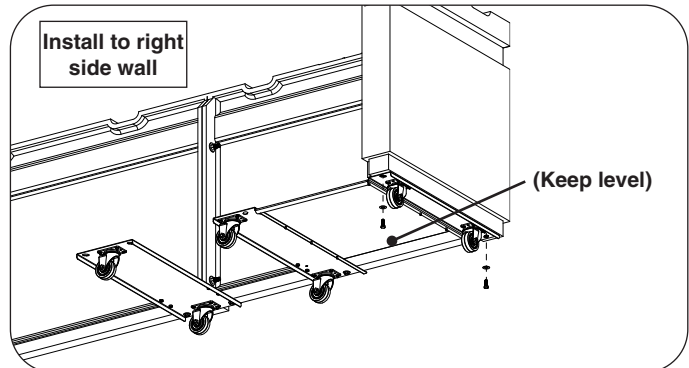

Fig. 7-1 Install right wheel assembly to bottom of right side wall
3. Repeat for the right side wall using the right wheel assembly as shown in Fig. 7-1.